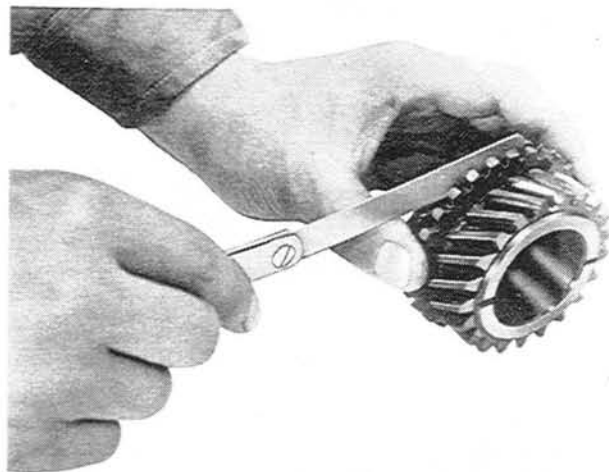

Fig. 7A-7 Checking of synchronizer ring
2. Inspect the synchronizer ring for wear. To check the wear of the synchronizer ring, fit the synchronizer ring evenly to the gear cone and measure the clearance between the side faces of the synchronizer ring and the gear with a feeler gauge, as shown in Fig. 7A-7. If it is less than **0.8 mm (0.032 in)**, replace the synchronizer ring or gear. The standard clearance is 1.5 mm (0.060 in).